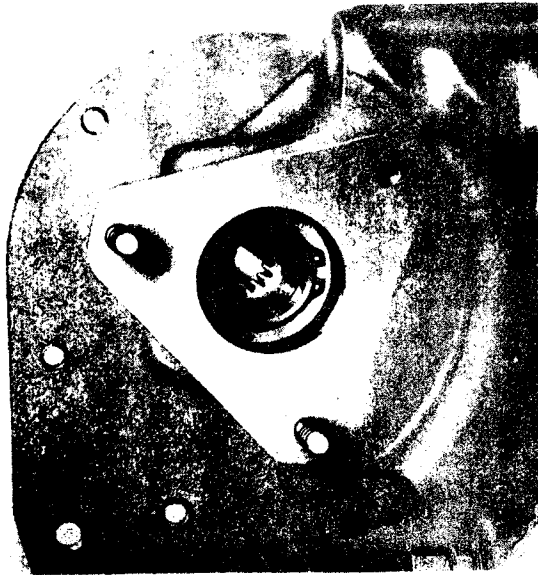

Fig. L.8.
1. Replace drive hub in bearing and locate with circlip as shown in Fig. L.8.